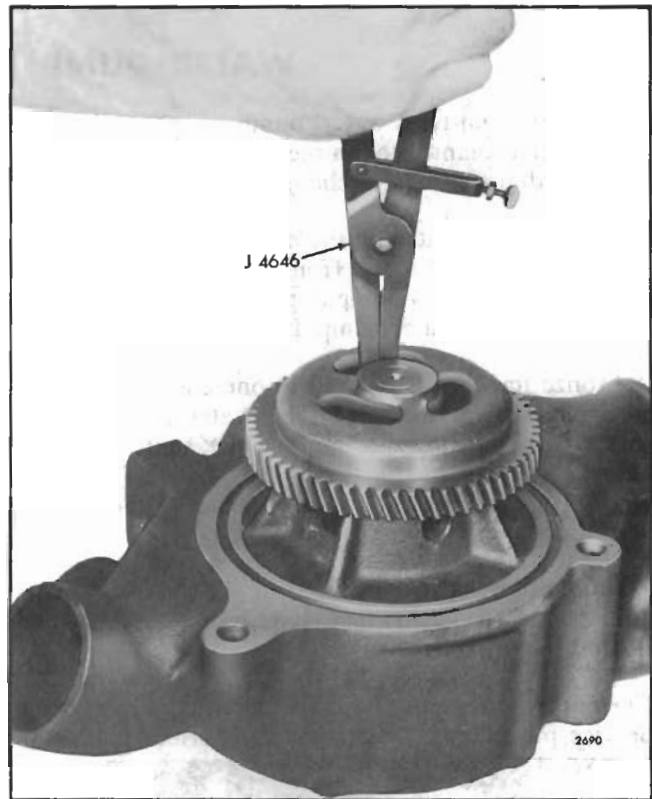

Fig. 3 - Removing Retaining Ring
1. Turn the pump gear so the slot is over the ends of the bearing retaining ring, insert pliers J 4646 into the slot and, with the aid of a small screw driver, remove the ring from the groove (Fig. 3).